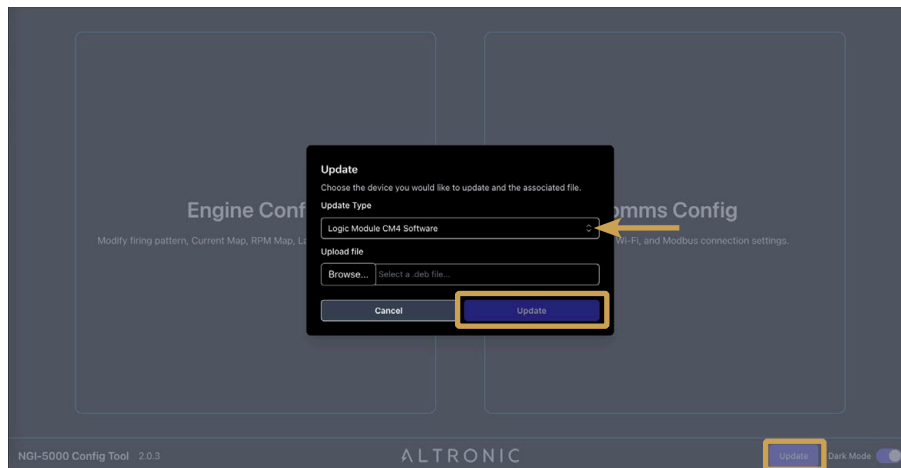

Figure 52
4. Click the blue **Update** button in the bottom-right corner. See *Figure 52*.